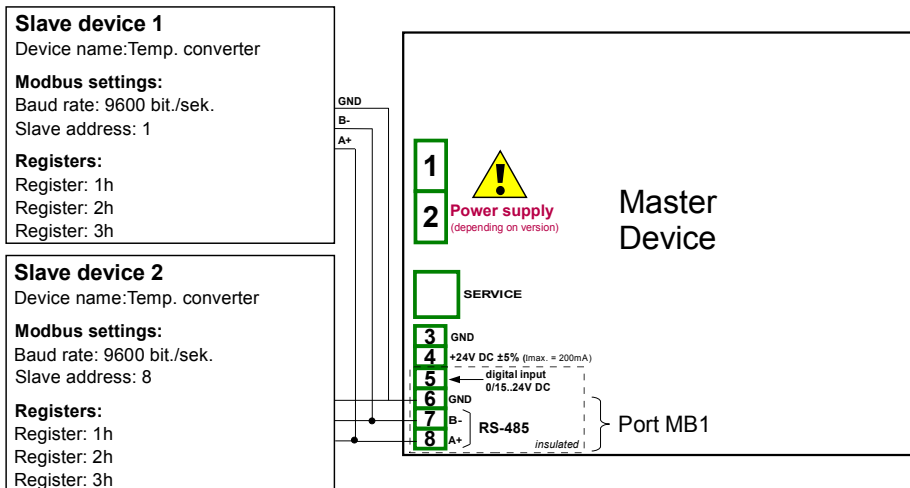

Fig. 7.105. Connection diagram for the Modbus port MB1
First configure the device then connect the SLAVE device to the device (in accordance with Fig. 7.105).
- using the arrows in the upper right corner to select the communication port, such as 1 (**Port number**: 1, MB1 in accordance with Fig. 7.105)